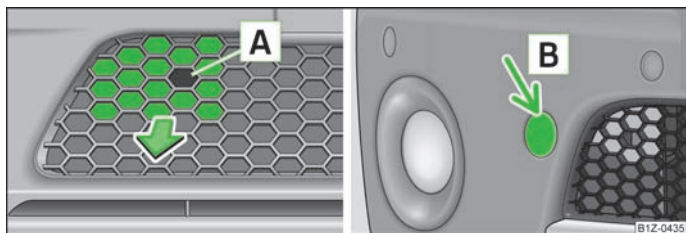

Fig. 159 Front bumper Octavia RS: Protective grille/Octavia Scout: Cap
- Insert a finger into opening **A** of the grille » Fig. 159.